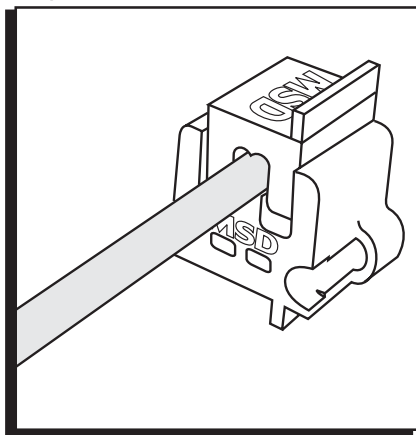

Figure 6 Aligning the Terminal in the Tool.
4. Slide the other part of the Mini-Stripper-Crimper over the wire terminal and lightly press them together (Figure 6).